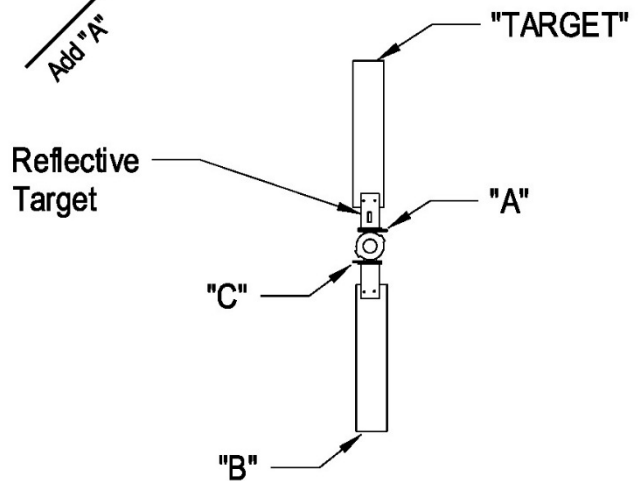

Figure 10-14. Tail Rotor Clock Angle Correction Example
- (11) Re-plot original target reading (Fig. 10-14).
- (12) Remove the AN960-10L washer from tip B and add three 1/4 harper washers to the pitch link position C.
- (13) Run helicopter again and record the ips reading and clock angle. The following results were obtained: Run 3, .18 @ 6:00 clock angle (Fig. 10-14).